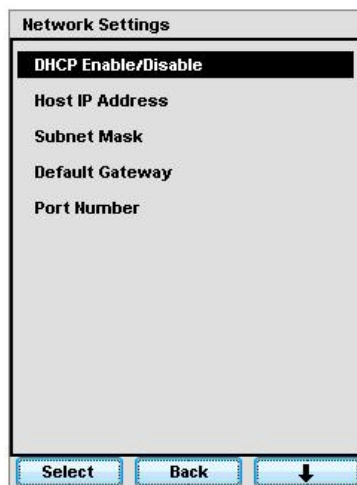

Figure 1. AutoRAE2 Network Setting Menu.
4. Now choose Network Settings and "Select" again. The first option is DHCP Enable/Disable (see Figure 1).